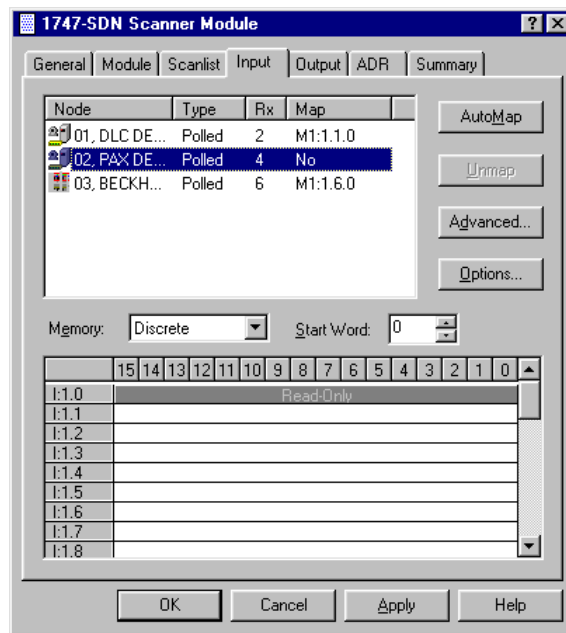

Figure 6
1. Select the **Input** tab from the configuration screen (Fig. 6). From this menu the input data only will be mapped.
1. Select the **Input** tab from the configuration screen (See Fig. 6). From this menu the input data only will be mapped.